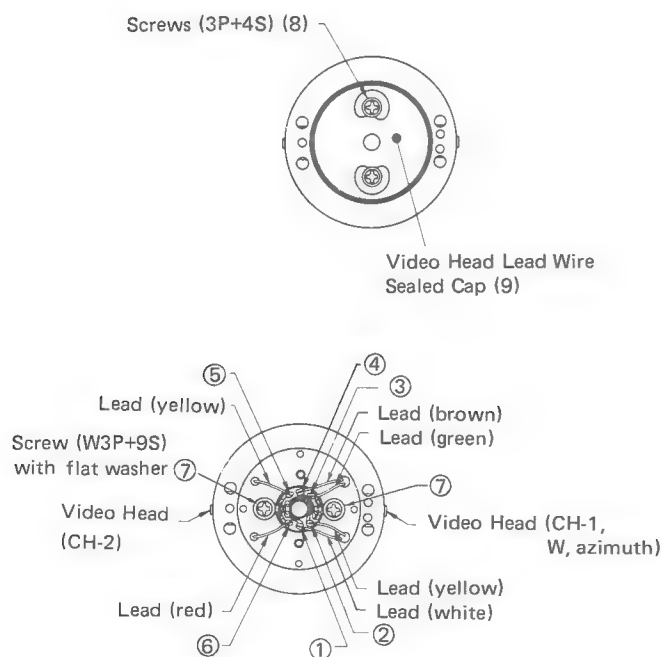

Figure 26
1. Fit the replacement drum as shown in Figure 26, taking care to position all the leads correctly.